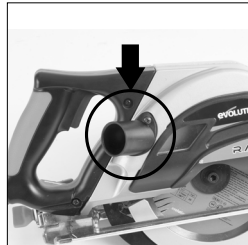

Fig. 9
- Fit the Discharge Port Exhaust in place of the blanking cover. **(Fig. 9)** Wood chips will be ejected from the Discharge Port Exhaust during cutting operations.